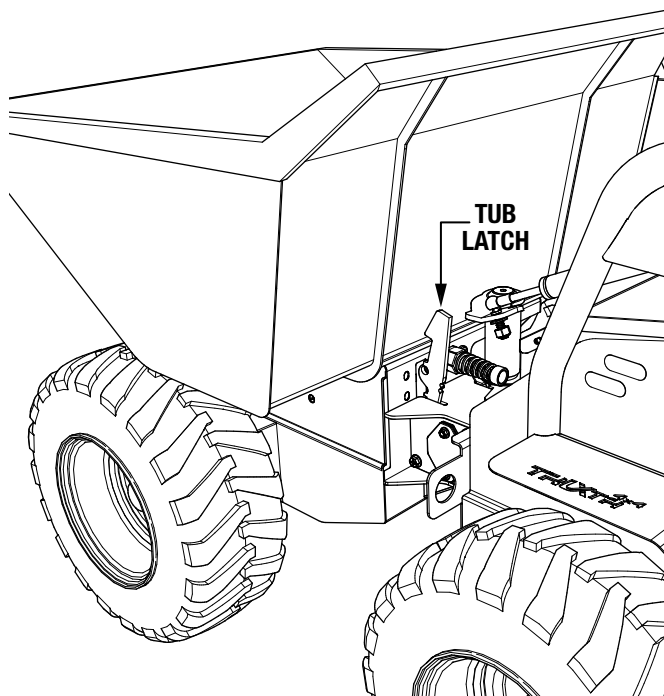

Figure 10. Tub Latch
7. Place the tub in the forward position and make sure it is secured firmly under the tub latch (Figure 10). Adjust the tub latch if necessary.